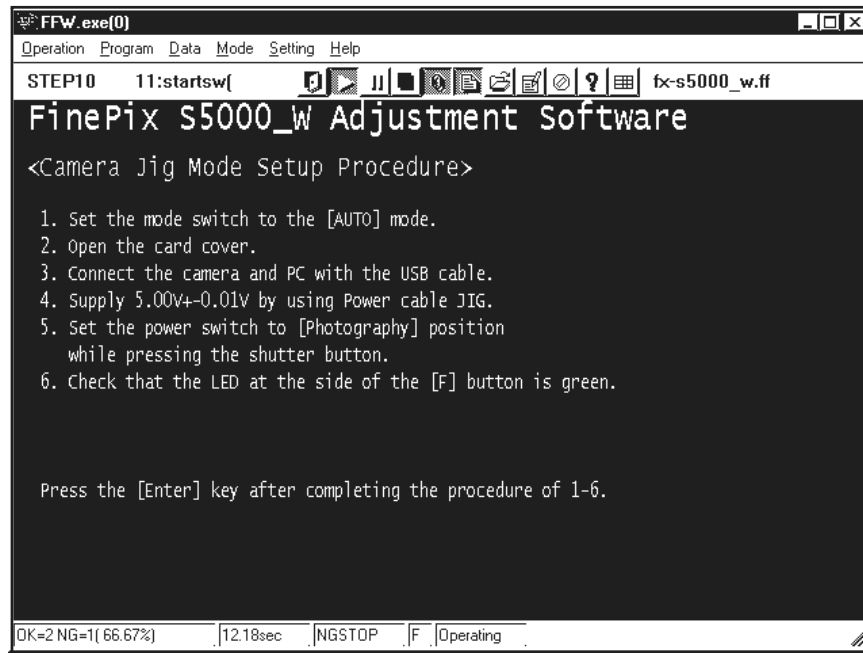

Fig.3
--->The [Jig Mode Setup Procedure Screen (Fig.3)] appears.